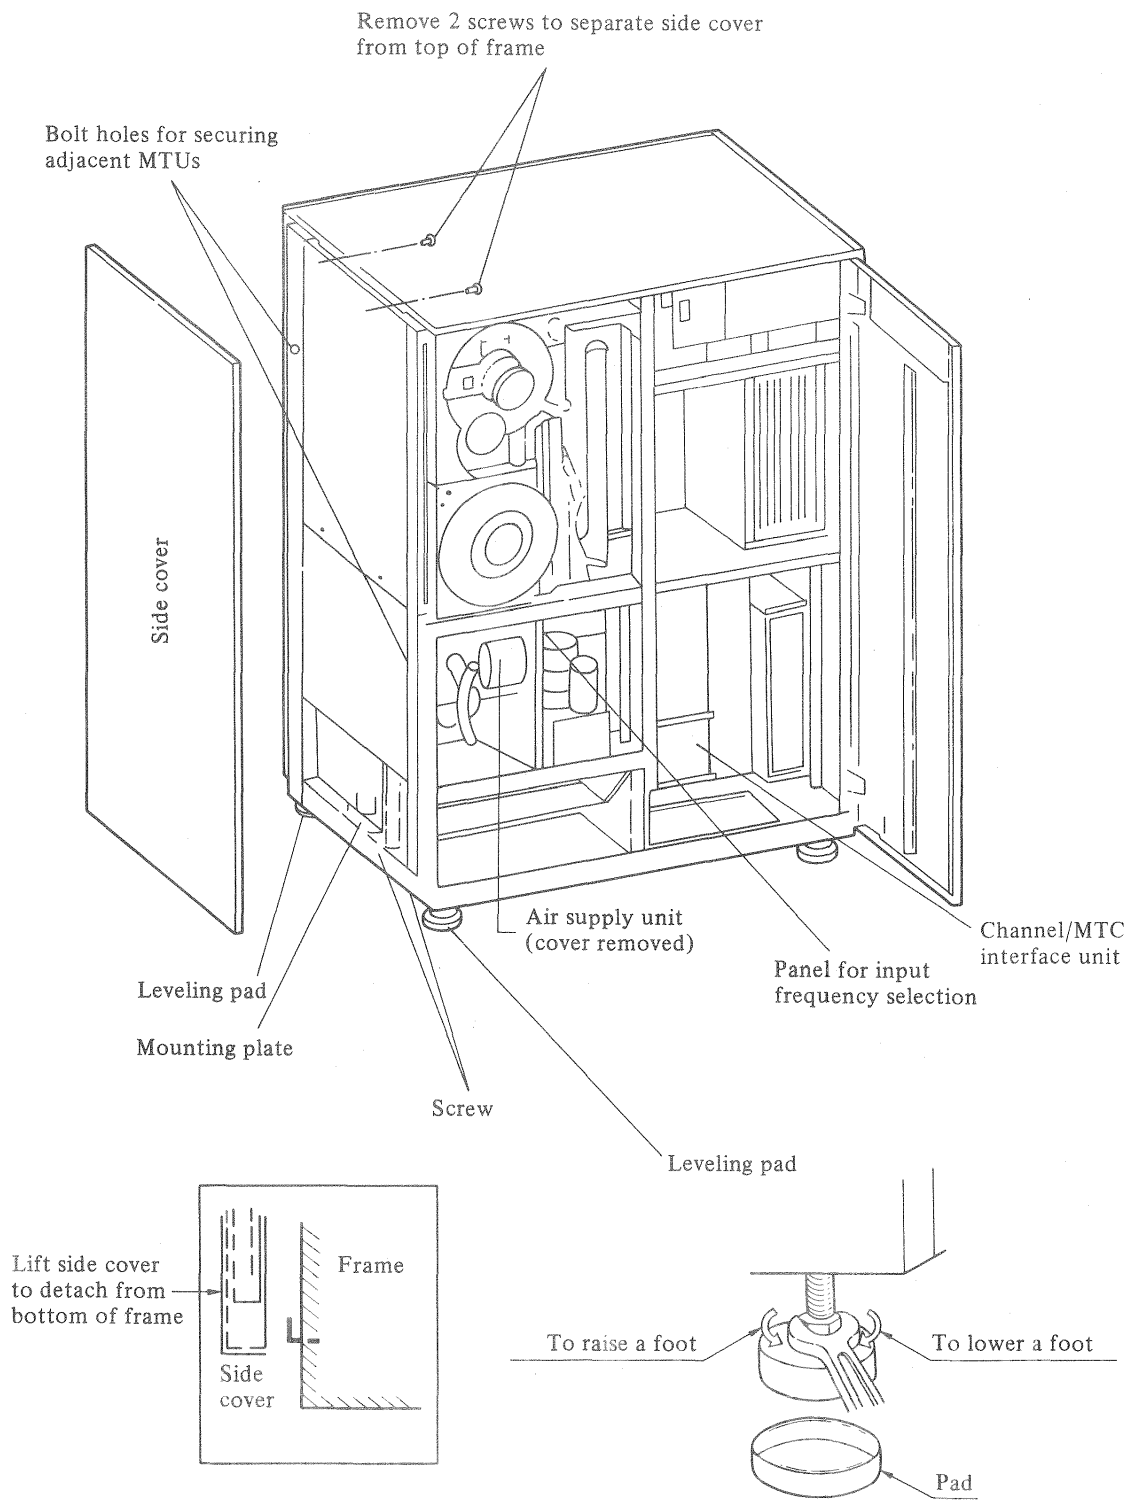
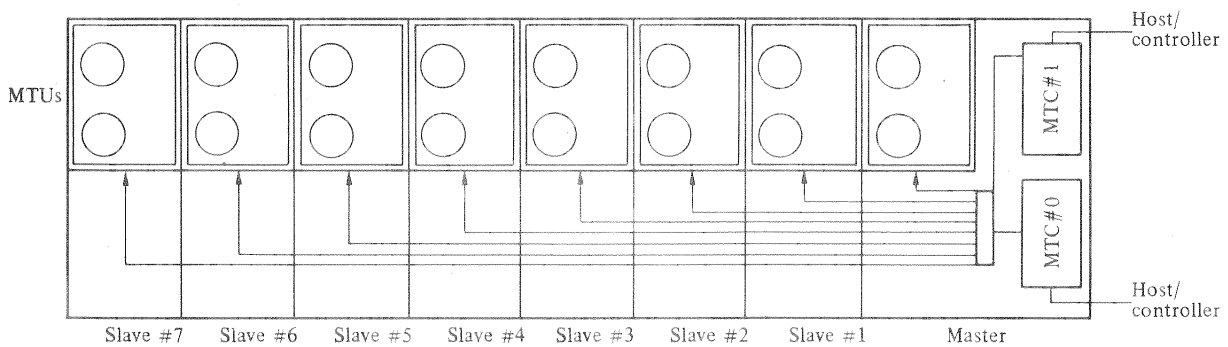
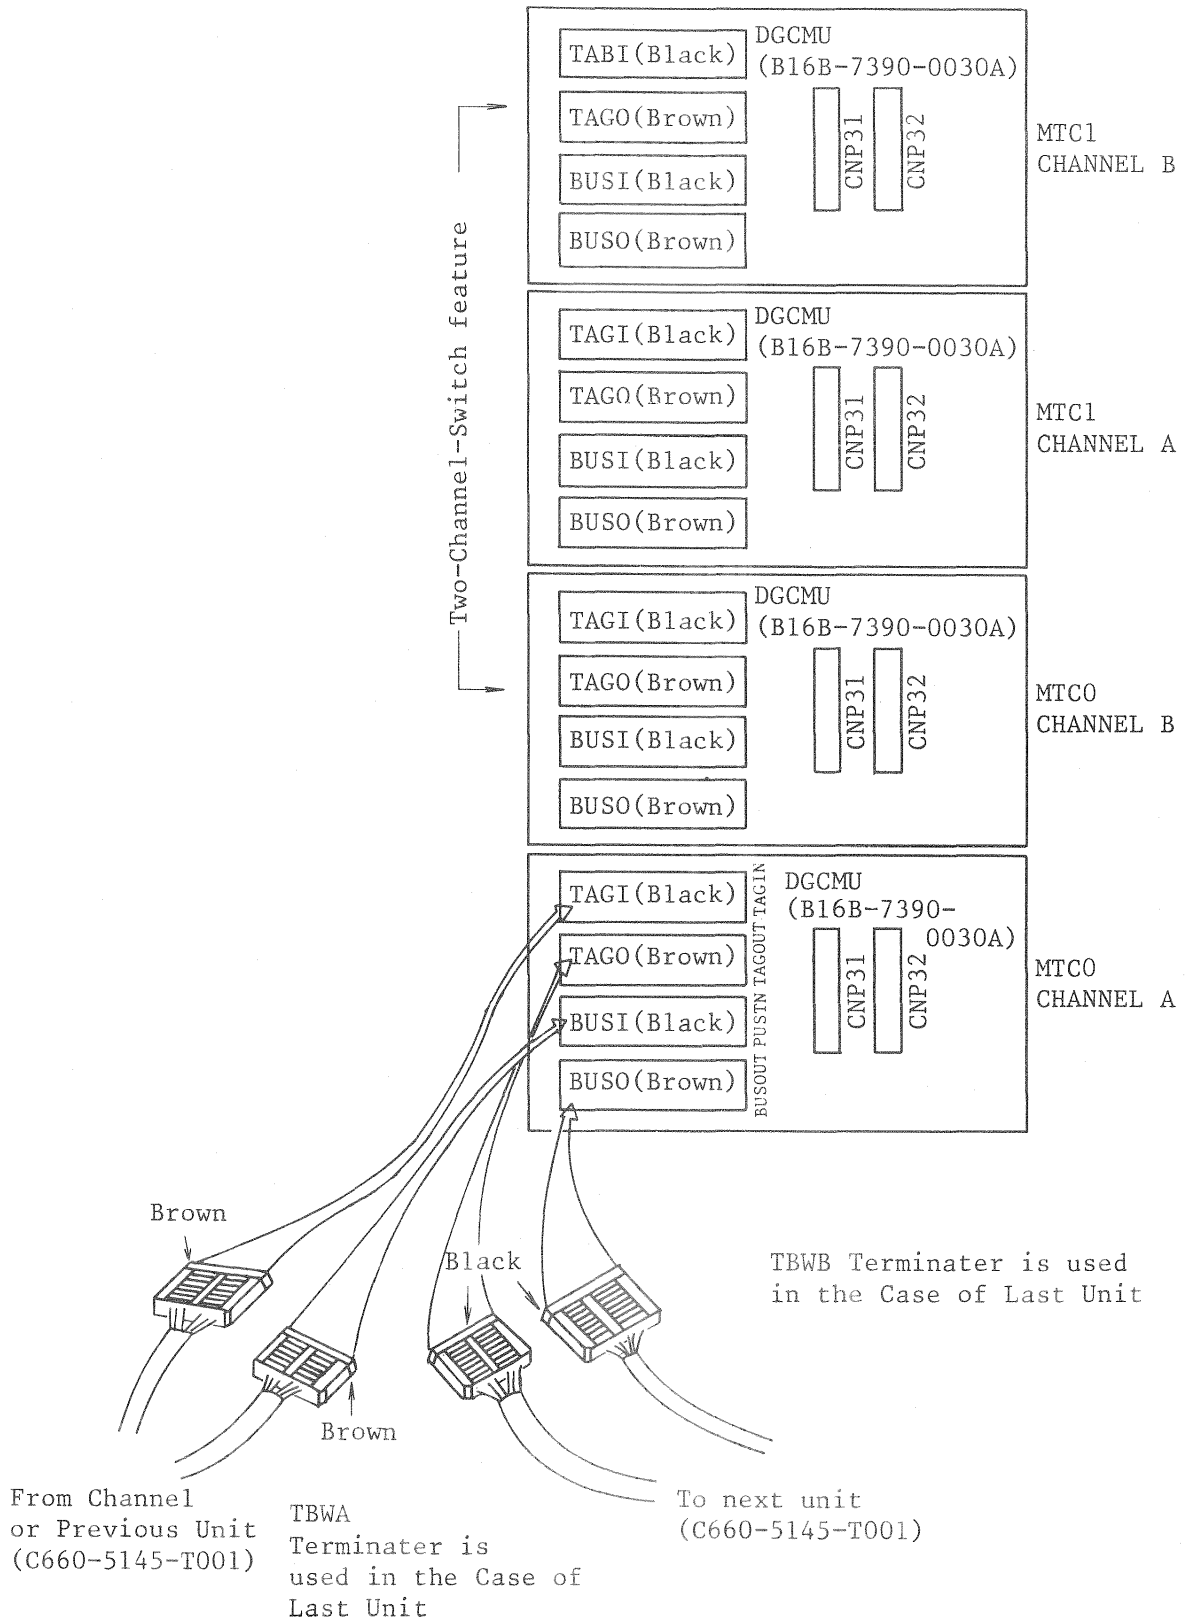

Figure 1.3 Master unit (front view)
Figure 1.6 Maximum configuration
Figure 2.7 Channel/MTC interface cabling
When two or more MTUs are installed side by side, remove covers from the sides that will be adjacent to one another. Only the end units require side covers. Refer to Figures 1.3 through 1.6, and follow these steps:
- (1) Remove the two screws shown in Figure 1.3 to loosen side cover from top of frame.
- (2) Lift side cover to detach from bottom of frame.
- (3) Remove the mounting plate from the master unit and attach it to the end unit.
- (4) Place the MTU(s) in the installation position.
- (5) Level each unit by adjusting the four leveling pads.
- (6) Ensure that the distance between the floor and the bottom of the MTU(s) is 50 mm (approximately 2 inches).
- (7) Continue leveling until bolt holes are aligned on adjacent MTUs.
- (8) Bolt two MTUs together using two bolts in holes shown in Figures 1.3 through 1.5.
- (9) Ensure that all units are stable, level, and free of vibration after bolting.
- (10) Refer to Figure 1.6 for final configuration of up to eight units.
- (1) Confirm whether facility input frequency is 50 or 60 Hz.
- (2) Remove the cover of the air supply unit. This cover is located on the front of the MTU, as shown in Figure 1.3. The label on the cover specifies whether the unit is set for 50 or 60 Hz input.
The connections of the channel/MTC interface cables to the channel/MTC interface unit. The location of the channel/MTC interface unit is shown in Figure 1.3. Figure 2.7 shows the connection. The channel B side is of a two channel switch feature. The MTC of 3241, 3261, and 3281 is mounted only in the MTC#0 side. Perform the channel/MTC interface cabling as follows: